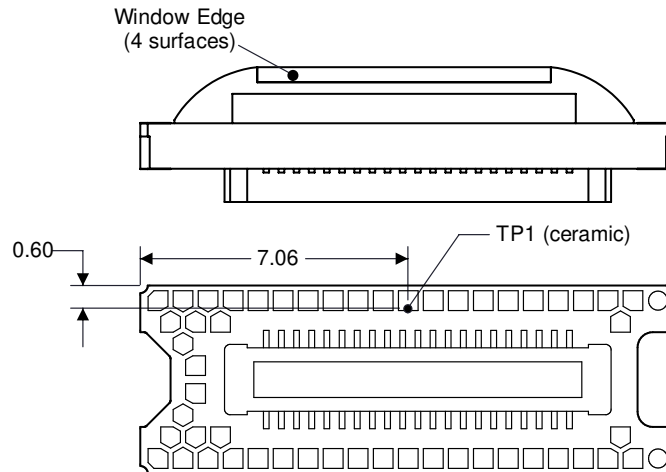

Figure 7-1. DMD Thermal Test Point
- T_{CERAMIC} = Measured ceramic temperature (°C), TP1 location in Figure 7-1
- Q_{ARRAY} = Total DMD power; electrical plus absorbed (calculated) (W)
- $Q_{\text{ELECTRICAL}}$ = Nominal DMD electrical power dissipation (W)